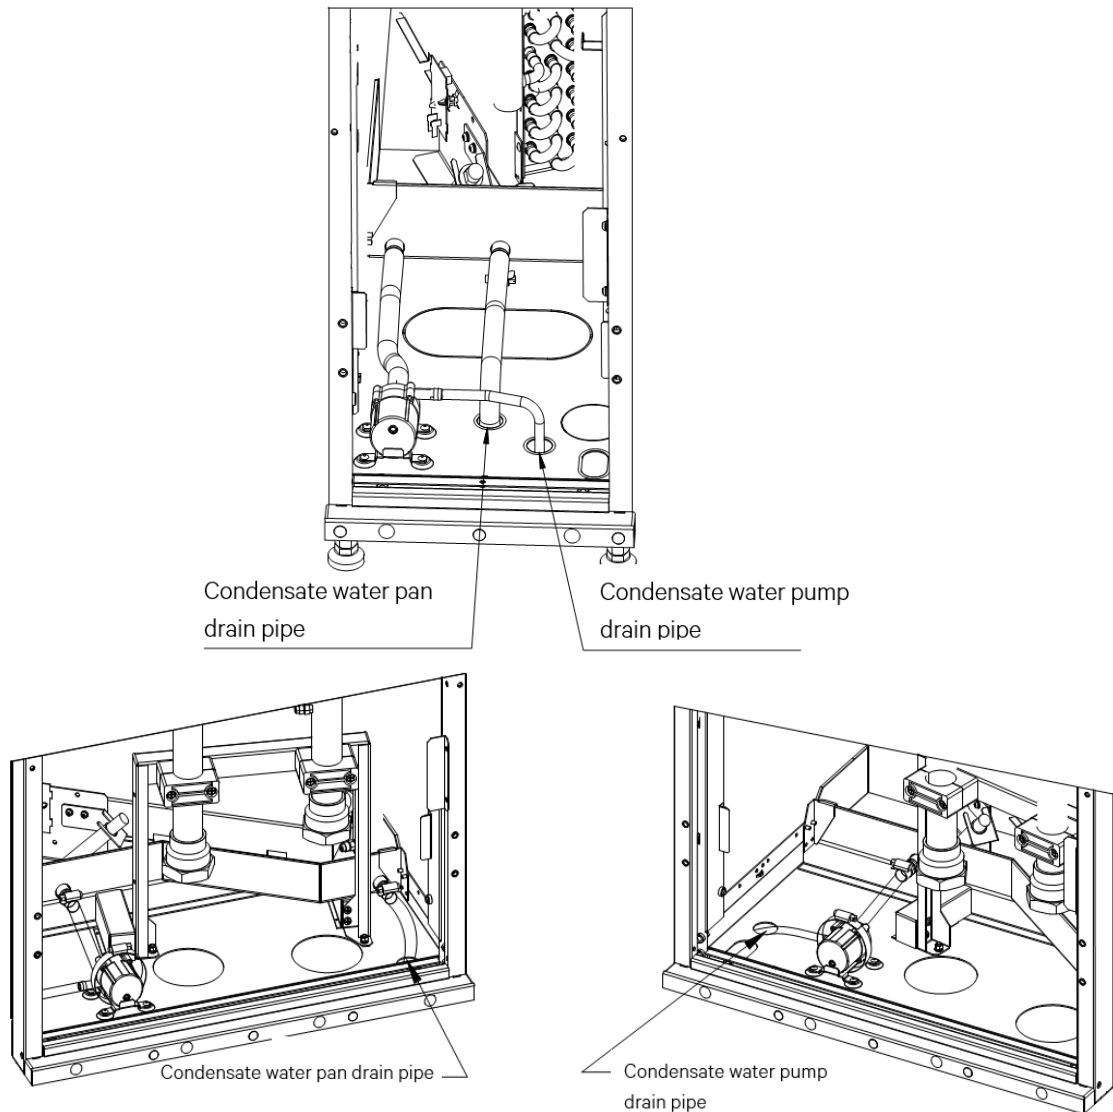

Figure 2-23 Condensate water drain pipes
- If there is no pump, lead the soft pipes at the water pan through the two drainage holes on the bottom plate (Refer to Figure 2-23 for the same)